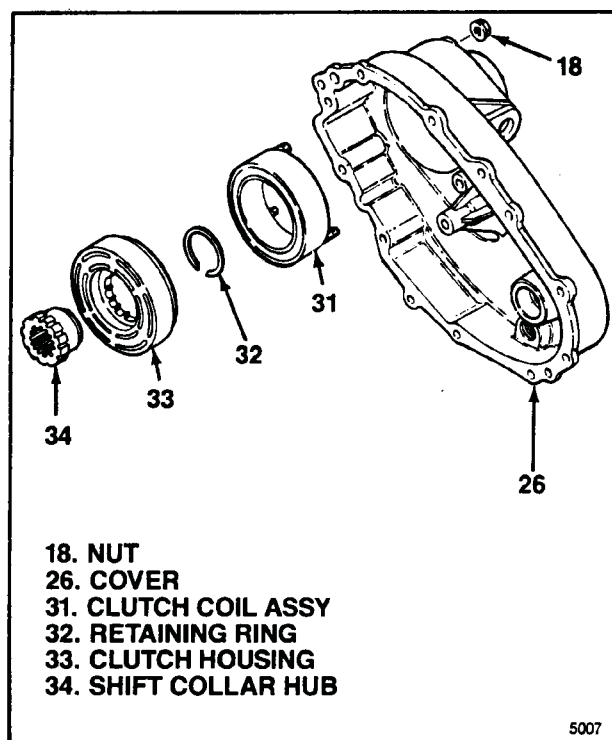
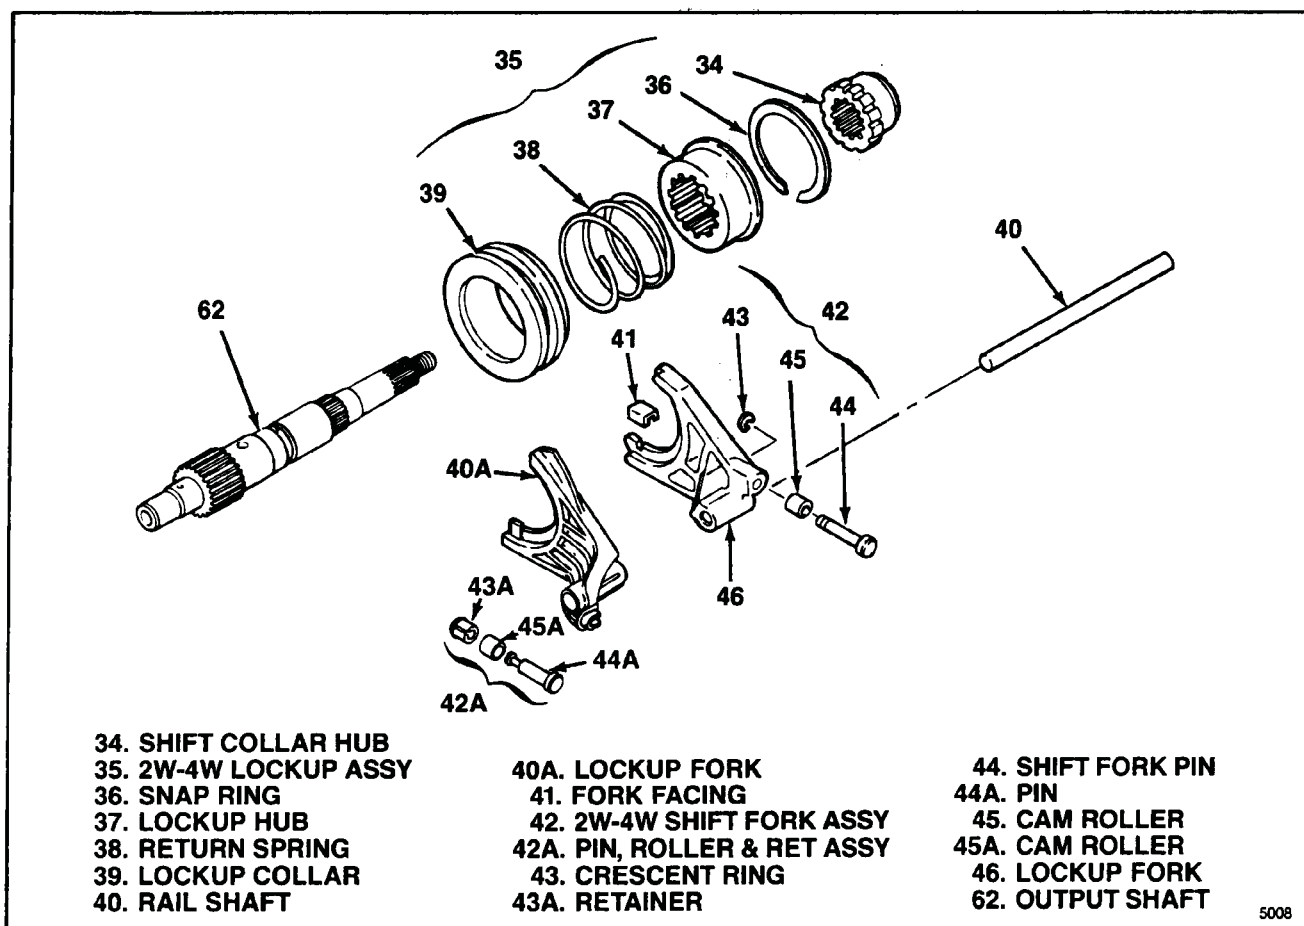
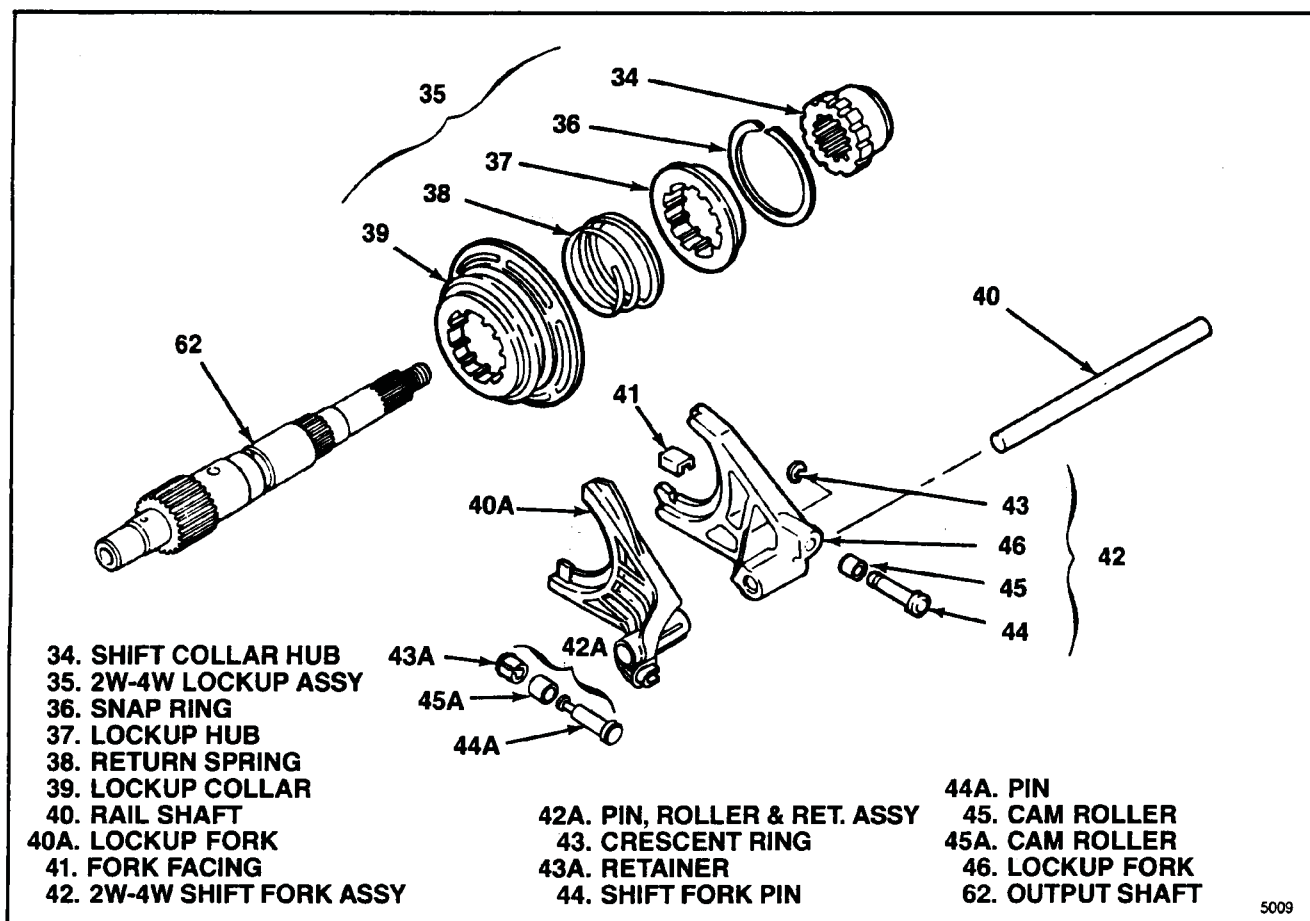

Figure 3-4. Electric Clutch Components
Figure 3-5. Lockup Shift Parts (Mechanical Shift)
Figure 3-6. Lockup Shift Parts (Electric Shift)
**3-10. REMOVAL OF ELECTRIC CLUTCH COMPONENTS (ELECTRIC SHIFT TRANSFER CASE ONLY)** (see figure 3-4). On electric shift units, remove components as follows:
- a. Remove three nuts (18) attaching clutch coil assembly inside cover (26).
- b. Remove clutch coil assembly (31).
- c. Remove retaining ring (32) and slide clutch housing from shift collar hub (34).
**3-11. REMOVAL OF LOCKUP SHIFT PARTS.** From remaining transfer case assembly (34 through 121), remove the following (see figure 3-5) for mechanical shift; figure 3-6 for electric shift);
- a. Remove shift collar hub (34) from output shaft (62).
- b. Together, slide 2W-4W lockup assembly (35) and 2W-4W shift fork assembly (42) or lockup fork 90A from output shaft (62) and rail shaft (40). Separate assemblies, remove rail shaft (40) and remove two fork facings (41) from fork assembly (42).
- c. To disassemble 2W-4W lockup assembly, remove snap ring (36), lockup hub (37) and return spring (38) from lockup collar (39).